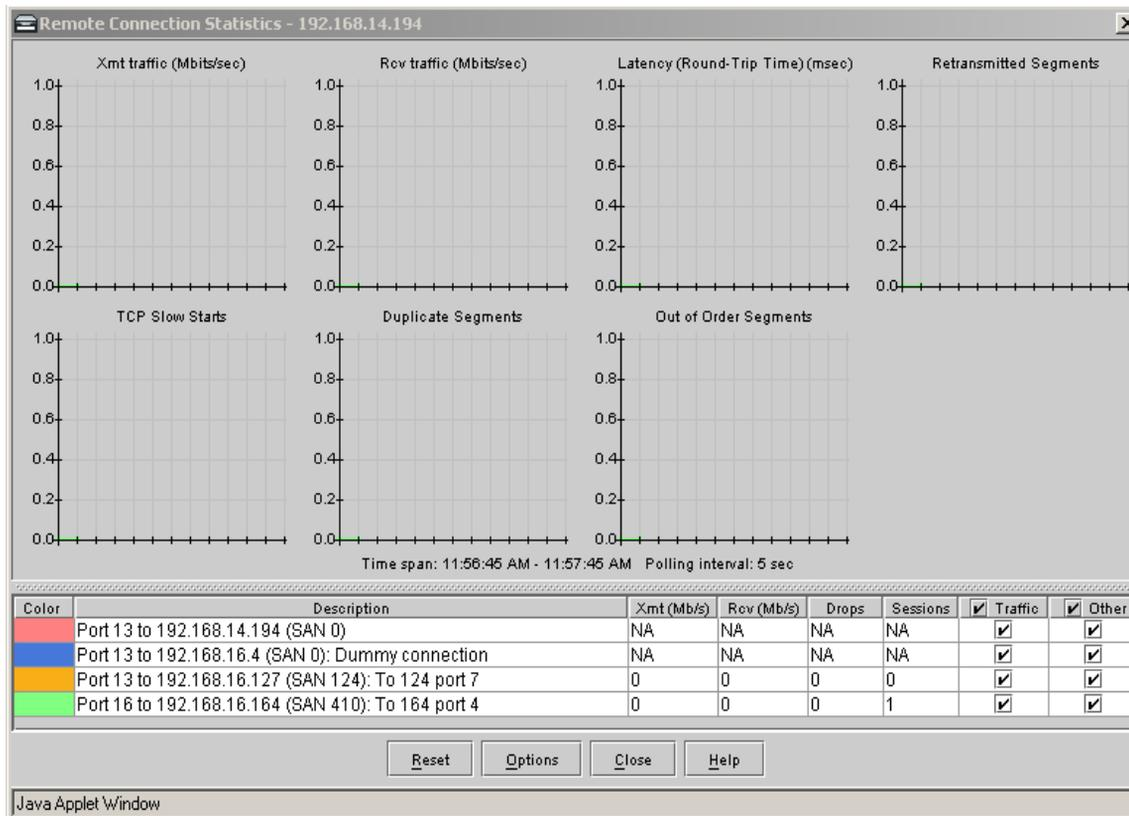

Figure 6-25 Remote Connection Statistics Dialog Box
1. Select *Statistics/Info>Remote Connections* to display the *Remote Connection Statistics* dialog box (Figure 6-25).